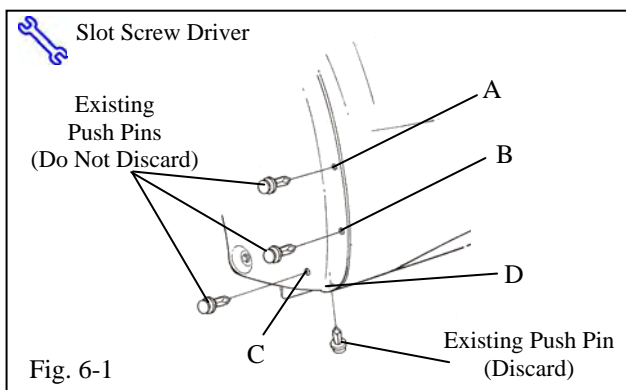

Fig. 6-1
- (a) Remove existing push pins locations A,B,C and do not discard. (Fig. 6-1)
- (b) Remove existing push pin location D and discard. (Fig. 6-1)